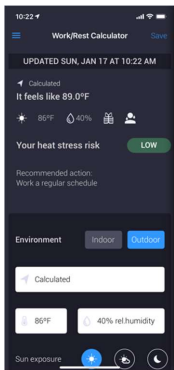

Figure 16: Work/Rest
3. Select the environment you are working in, **Indoor** or **Outdoor** (Figure 16).